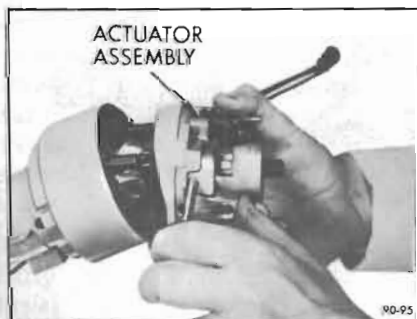

Figure 90-95—Removing Actuator Assembly
11. Lift tilt wheel release lever to disengage lock shoes from the support and remove actuator assembly. See Figure 90-95. Remove tilt springs.